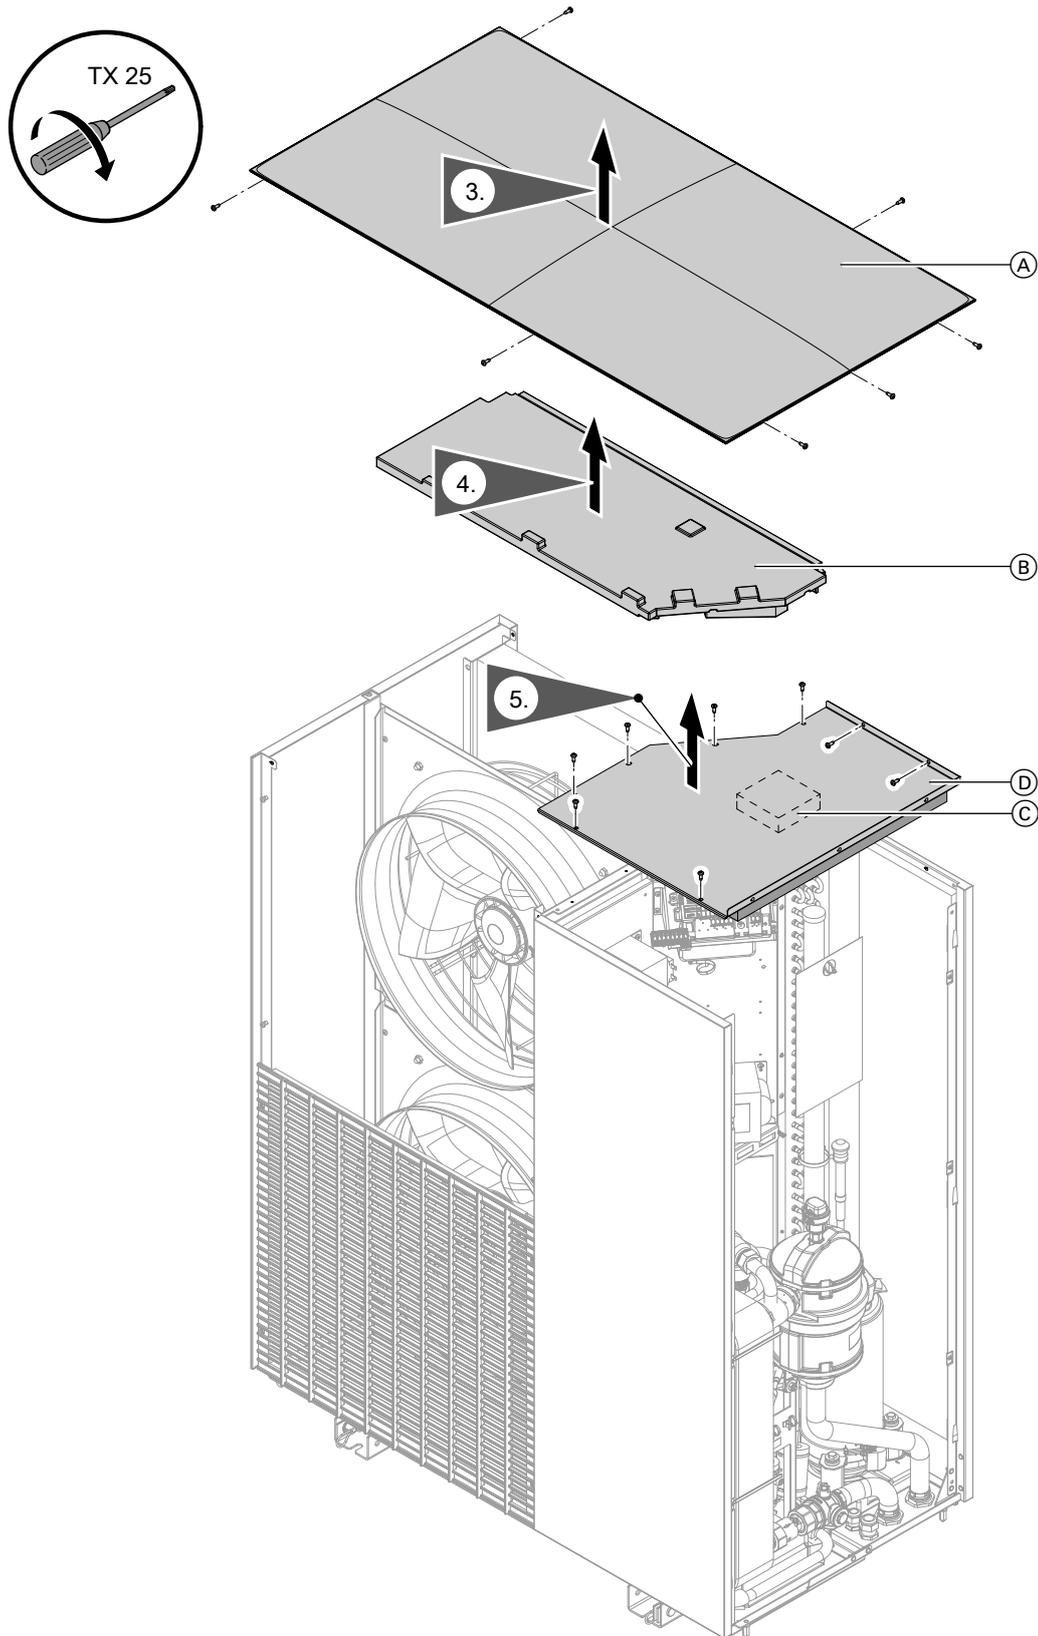

Fig. 97
3. Remove top cover: See Fig. 97.
2. Remove top cover: See Fig. 97.